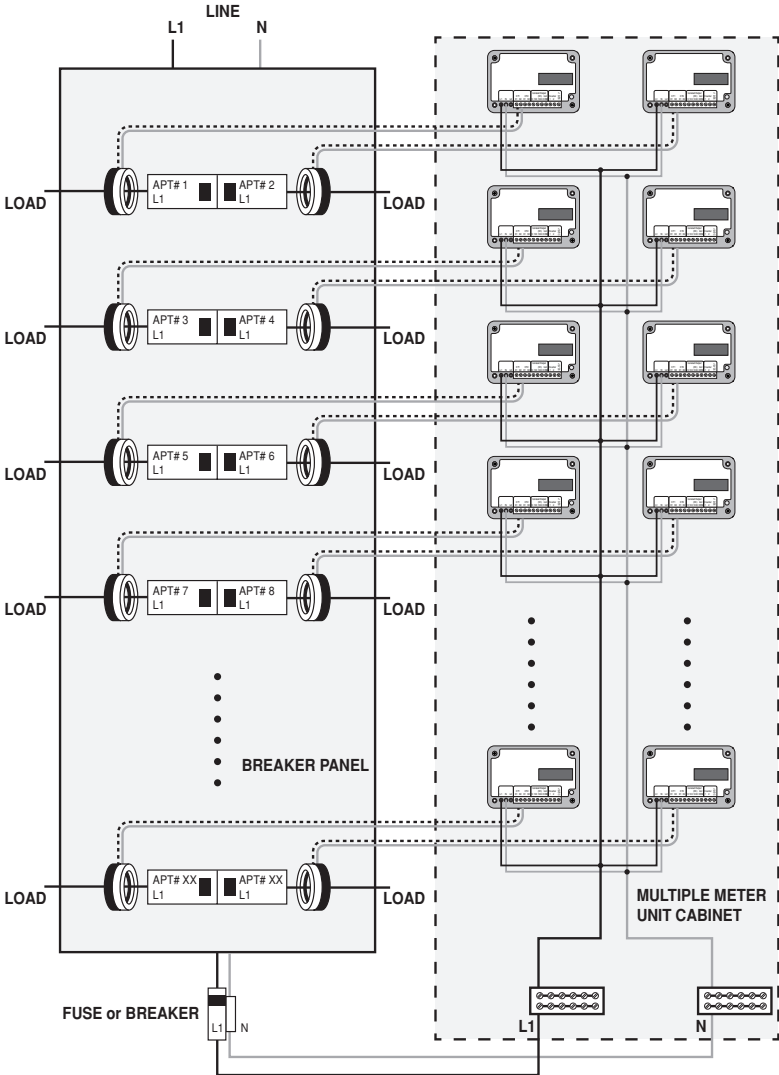
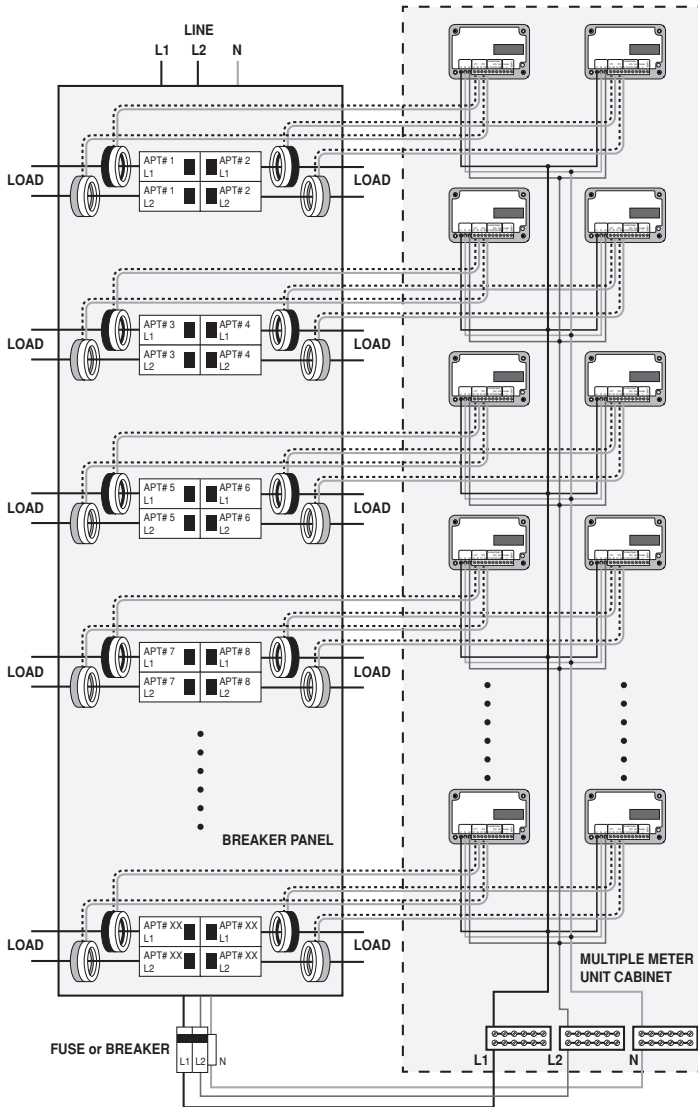
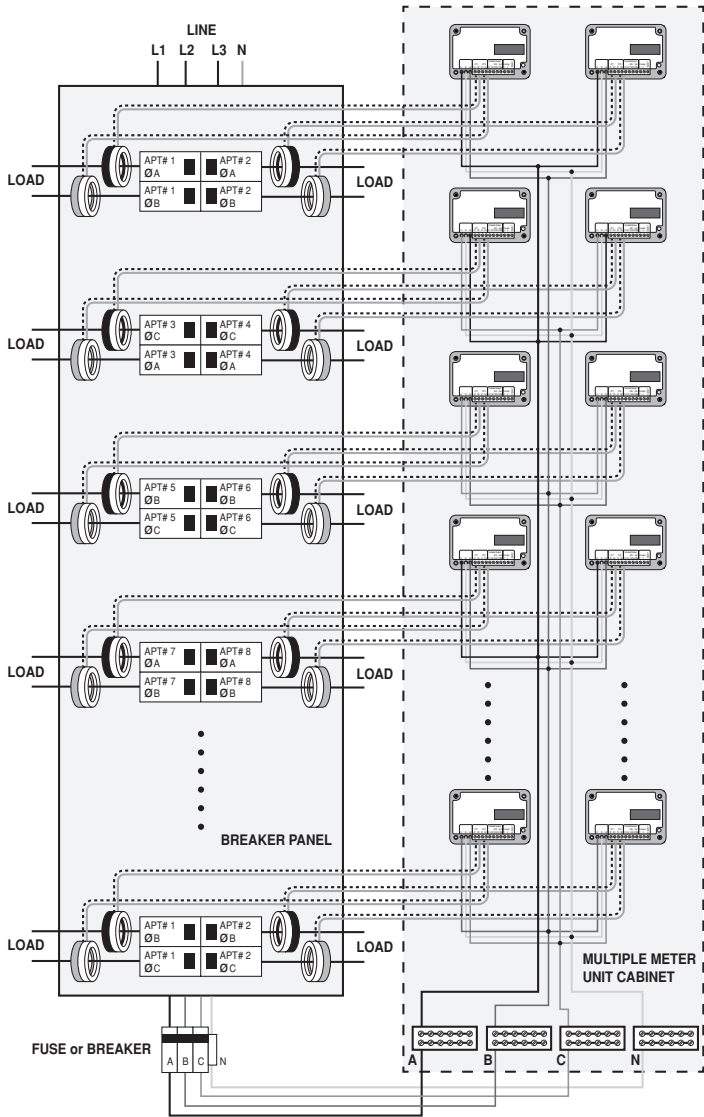

Figure 10: 1-Phase, 2-Wire Hookup Diagram
Figure 11: 2-Phase (split phase), 3-Wire Hookup Diagram
Figure 12: 3-Phase, 4-Wire Hookup Diagram
2. Connect 300 V min. insulated wiring for Line voltages and Neutral to the appropriate locations in the breaker panel, in accordance with all national and local electrical codes; see Figure 10 for 1Ph, 2-wire applications; Figure 11 for 1 or 2 Ph, 3-wire applications; Figure 12 for 3 Ph, 4-wire applications.
2. Connect 18 AWG min., 300 V min. insulated wiring for Line voltages and Neutral to the appropriate locations in the breaker panel, in accordance with all national and local electrical codes; see Figure 10 for 1Ph, 2-wire applications; Figure 11 for 1 or 2 Ph, 3-wire applications; Figure 12 for 3 Ph, 4-wire applications.
- For 1 or 2 Ph 3-Wire electrical panels, current and voltage inputs must be installed "in phase" for accurate readings (e.g. CT1 on Line 1, CT2 on Line 2); see Figure 11.
- For 3 Ph 4-wire electrical panels, see Figure 12 and follow factory-provided meter schedules for correct CT locations.
Failure to install CTs in the correct orientation will lead to inaccurate meter readings. Figure 10 through Figure 12 show wiring diagrams for the various voltage configurations.